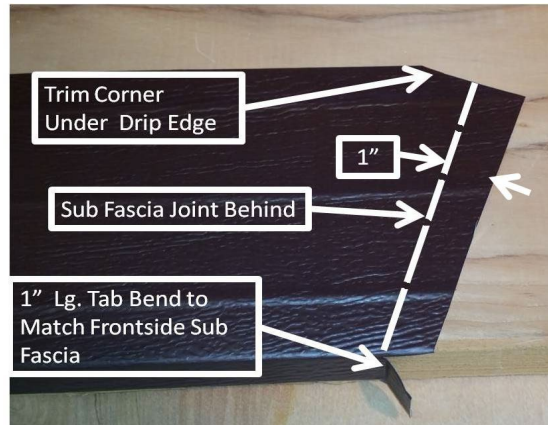

Figure 11-19. Gable Peak Back Side Fascia.
13. Cut the flange and trim the top corner as shown on Figure 11-19, and bend the tab to match the front-side gable angle. This small tab will cover the bottom of the joint and the top corner is trimmed to prevent any interference with the drip edge.